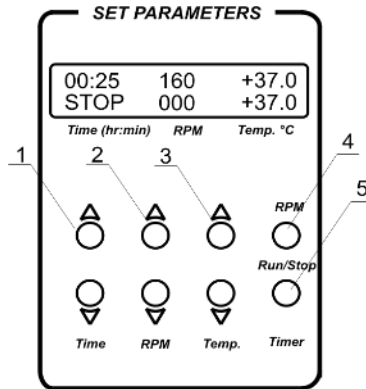

Fig.1. Control panel
- 4.3.1. **Setting time (Time).** Using the ▲ and ▼ **Time** keys (Fig. 1/1) set the required working time interval in hours and minutes (increment 1 min). Pressing the key for more than 3 s will increase the increment.
- 4.3.2. **Speed set (RPM).** Using the ▲ and ▼ **RPM** keys (Fig. 1/2) set the required shaking intensity in revolutions per minute (increment 10 rpm). Pressing the key for more than 3 s will increase the increment.
- 4.3.3. **Temperature set (Temp.°C).** Using the ▲ and ▼ **Temp.** keys (Fig. 1/3) set the required temperature (increment 0.1°C). Pressing the key for more than 3 s will increase the increment.
4.4.2. Press the **RPM-Run/Stop** key (Fig. 1/4). The platform will start rotating and the timer indicator will start counting the time interval (with 1 min precision).
At the end of the set time, the platform movement is stopped automatically, but the heating can be stopped ONLY manually by reducing the temperature using the ▼ **Temp.** key (Fig. 1/3 - lower key) till the OFF sign appears in the upper line of the display.
4.4.5. The timer can be restarted during the unit operation if necessary. Press the **Timer-Run/Stop** key once (Fig. 1/5) to stop the timer. Press the **Timer-Run/Stop** key again to restart the timer.